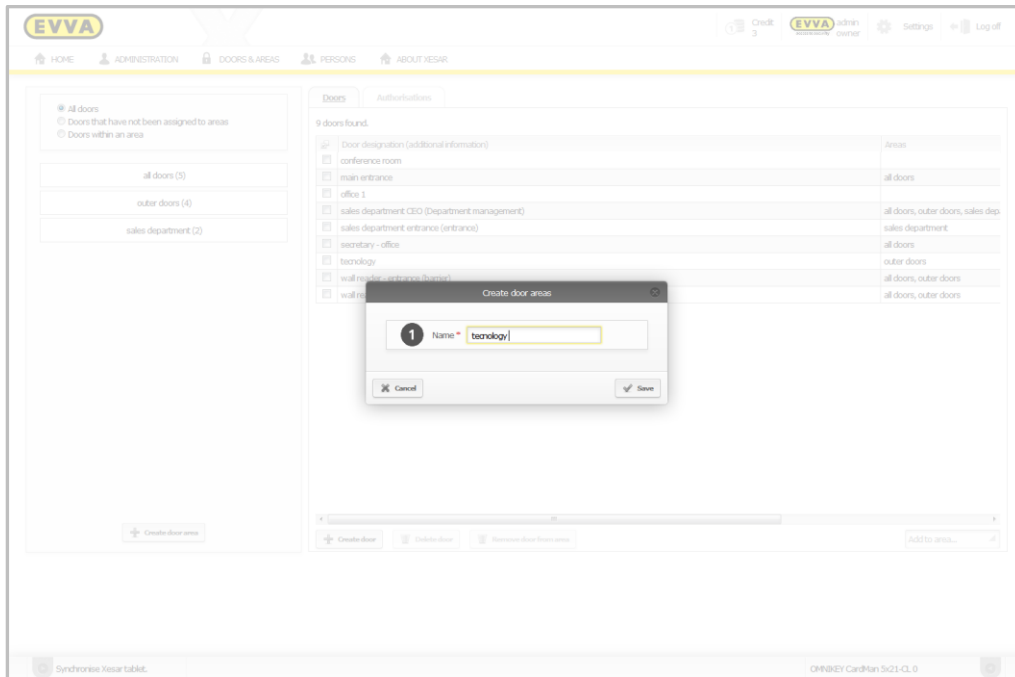

Figure 68: Creating new door areas
- Specify the **Name** of the door area ① (Figure 68: Creating new door areas).